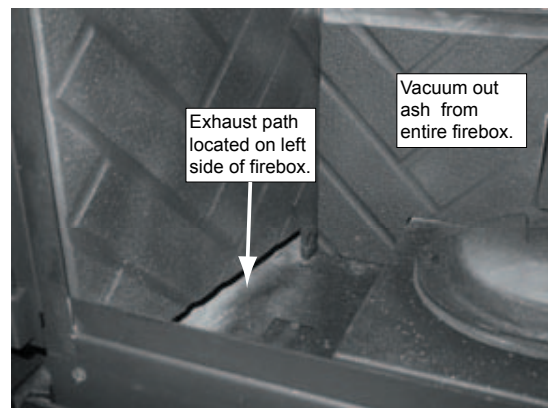

Figure 27.2
- Open door and vacuum all visible areas of the exhaust path located on the left side of the firebox and continue throughout the rest of the firebox. **Figure 27.2**